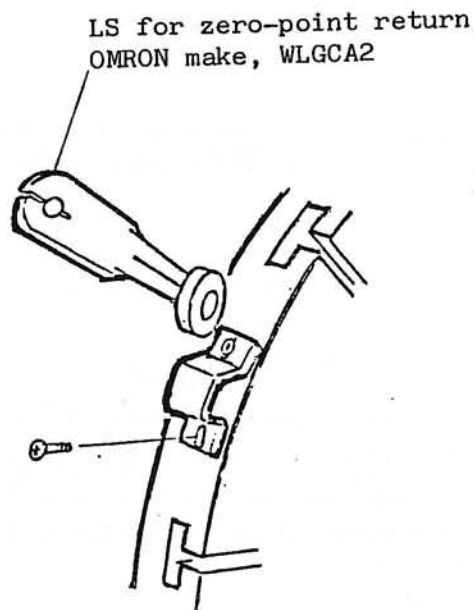

Fig. 4
3) Loosen the dog fastening bolts, and shift the dog to a proper position (the dog has circumferential slots for about  $\pm 5$  mm shifting). (Refer to Fig. 4.)